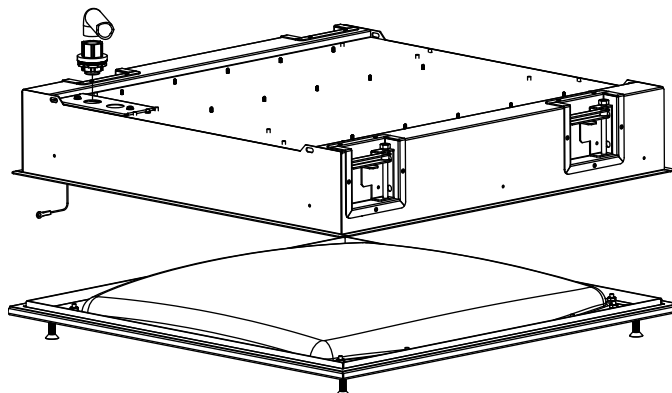

Figure 6
7. Remove door from fixture by loosening four (2x2) or six (2x4) door fasteners using tamperproof T40 Torx bit (TX option) or T40 Torx bit (FF) option. Note that the socket hole on the FF option is recessed (hidden); use care to avoid scratching finish. Use a Phillips screwdriver to remove lanyards holding door to housing. See Figure 6.